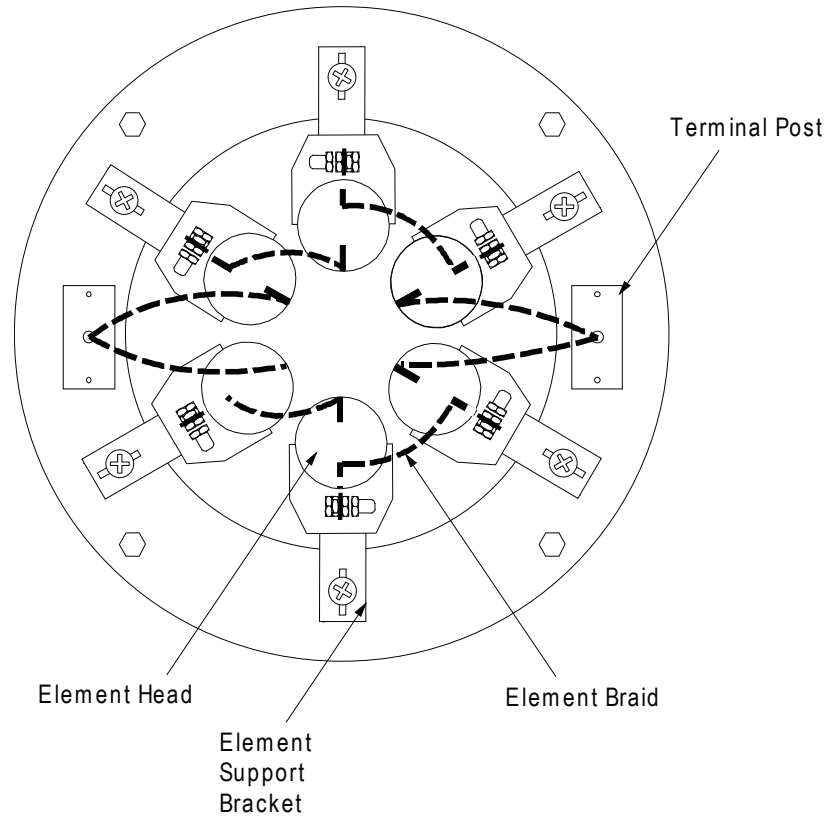
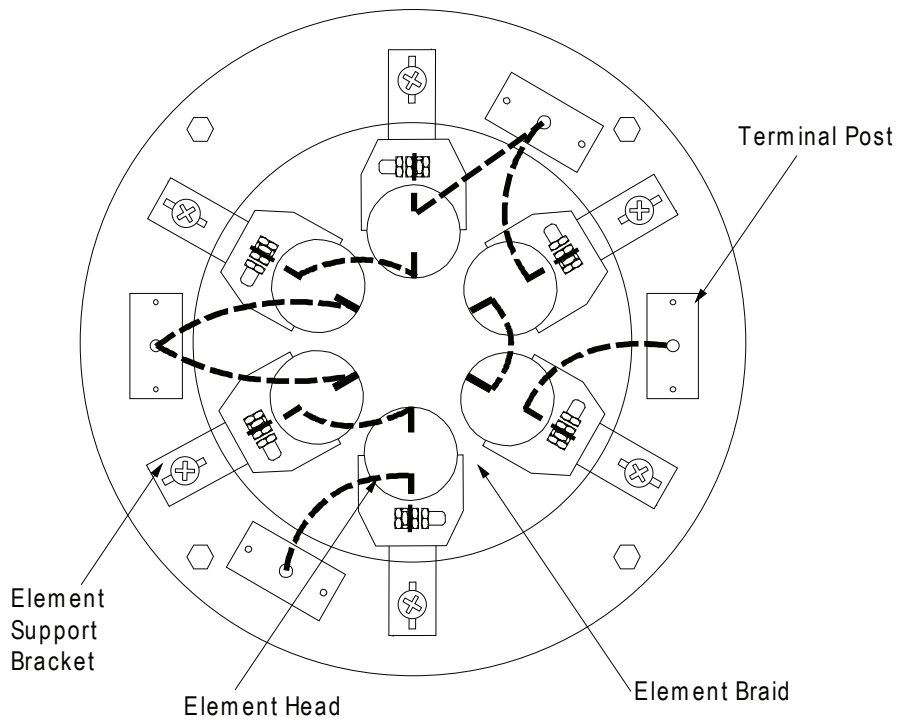

Fig. 4 Elements connections for the LANDCAL Blackbody Type R1500T- 220/240V
Fig. 5 Element connections for the LANDCAL Blackbody Type R1500T - 110/120V
- 8) Attach the electrical connections as shown in Fig. 4 (220/240V) or Fig. 5 (110/220V).